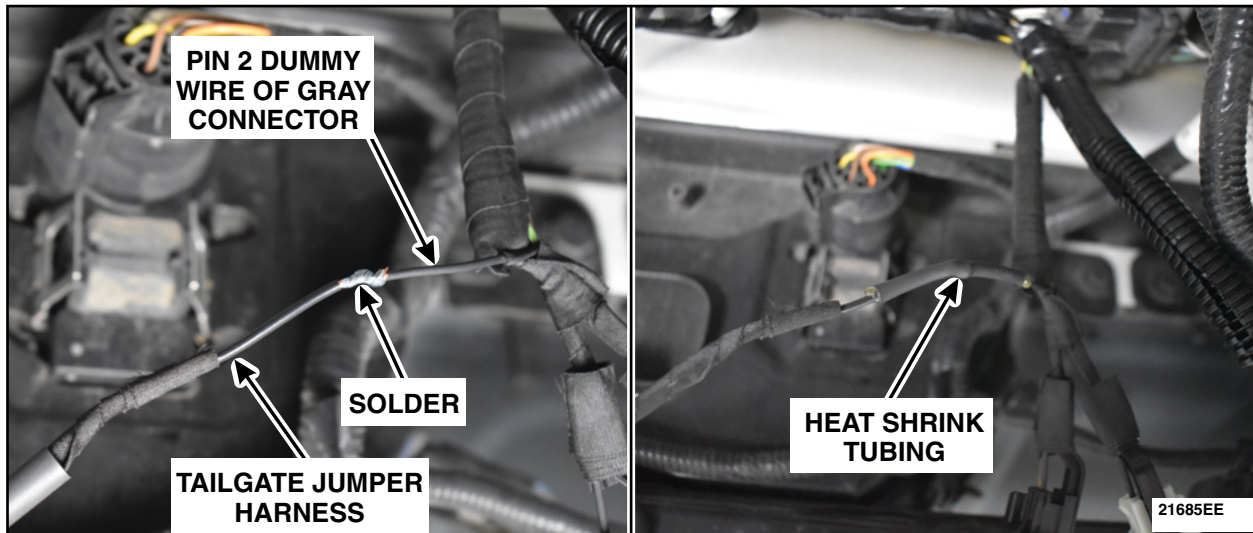

FIGURE 86
78. Solder the twisted wires and apply and seal the heat shrink tubing. See Figure 86. Reapply the convolute and/or black electrical tape.